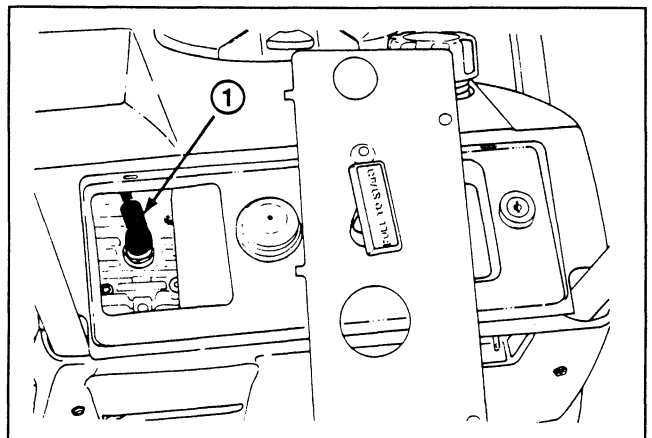

Figure 16
2. REMOVE SPARK PLUG (Fig. 16)—Pull wire off spark plug and remove plug. Examine the plug and replace if cracked, fouled, or dirty. **DO NOT SAND-BLAST, SCRAPE, OR CLEAN SPARK PLUG BECAUSE DIRT MAY RELEASE AND FALL INTO CYLINDER CAUSING ENGINE DAMAGE.**